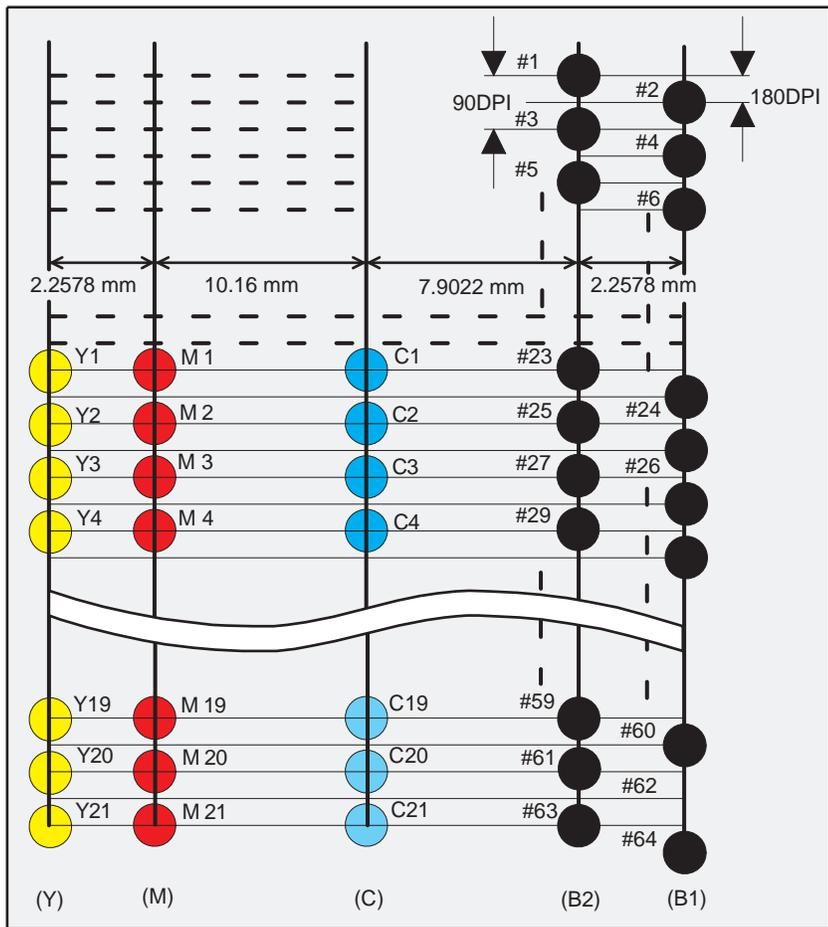

Figure 1-1. Nozzle Configuration for Stylus Color 440
- Refer to Figure 1-1 for Stylus Color 440.